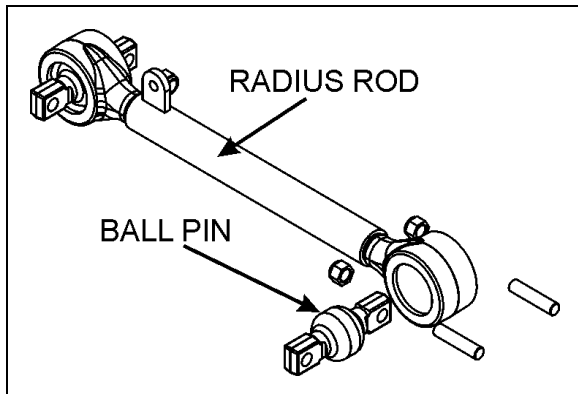

FIGURE 4: TYPICAL RADIUS ROD SETUP 16010
1. Remove nuts and washers from shock absorbers on upper and lower mounting pins, taking care to identify the inner and outer washers to ease reinstallation. Refer to figure 4 for details.